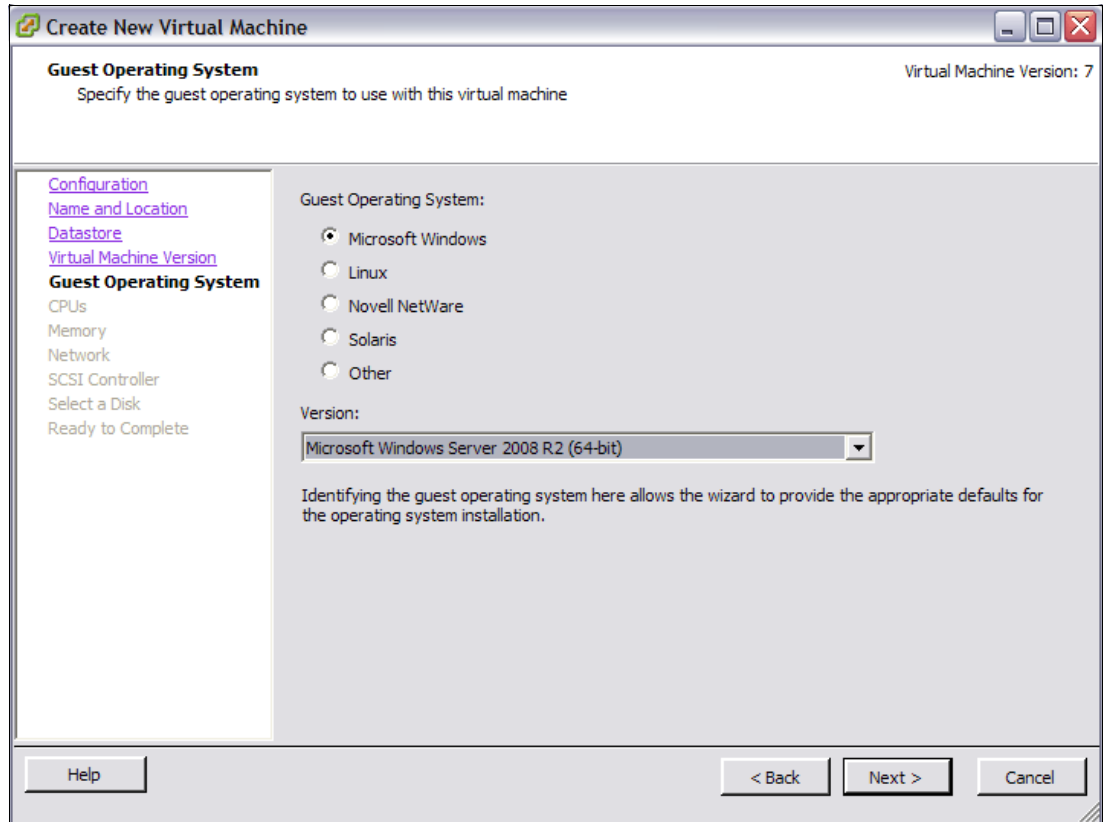

Figure 22-77 Guest Operating System selection
7. Select the Guest Operating System vendor and the corresponding Version. In our example, we used Microsoft Windows 2008 R2 64-bit as shown in Figure 22-77 on page 709. Click **Next**.